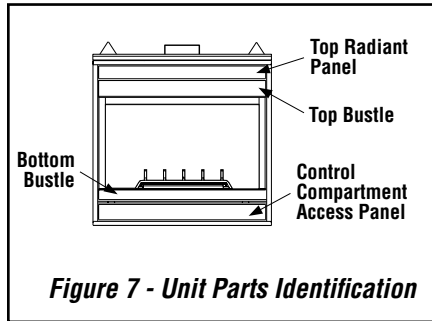

Figure 7 - Unit Parts Identification
2. Remove the top radiant panel (refer to **Figure 7**).